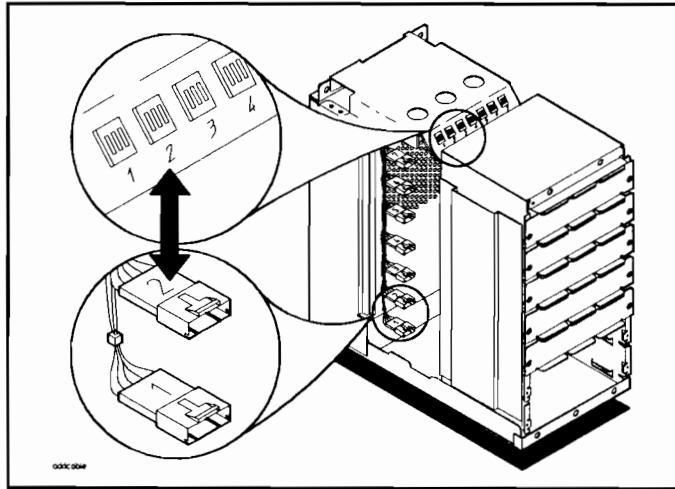

Figure 2-9. Correlating Address Connectors and Switches
Each device installed in your mass storage system requires a unique SCSI address (0-6 or 0-15). The address of the host SCSI interface card is normally set to 7 for SCSI single-ended mass storage systems. The SCSI address switches are marked underneath with mass storage system shelf numbers (1-7), and are used to set a SCSI address for each device in your mass storage system (see Figure 2-9).
1. Identify the address cable connector the device is connected to. Each address cable connector has a number on it that corresponds to an address switch with the same number (see Figure 2-9).